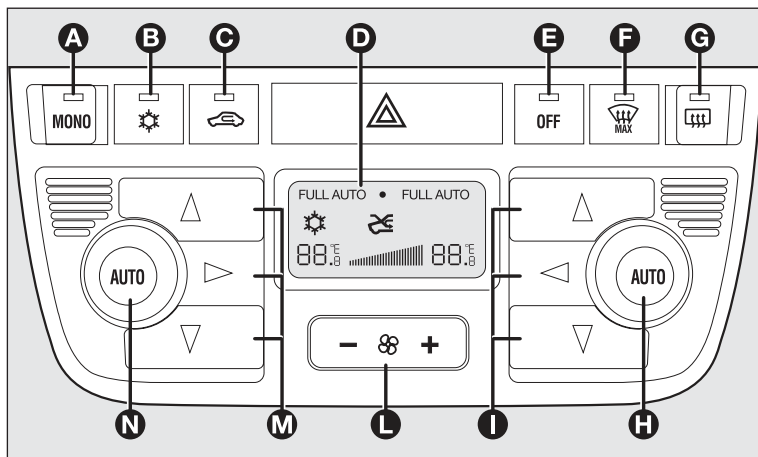

fig. 65
CONTROLS fig. 65
Separate operation of the set temperatures and air distribution is automatically restored by turning knob **H-fig. 65** or pressing button **MONO A** again when the button led is on.
- forced switching on (air recirculation always on), indicated by the turning on of the led on button **C**-fig. 65 and symbol  on the display;